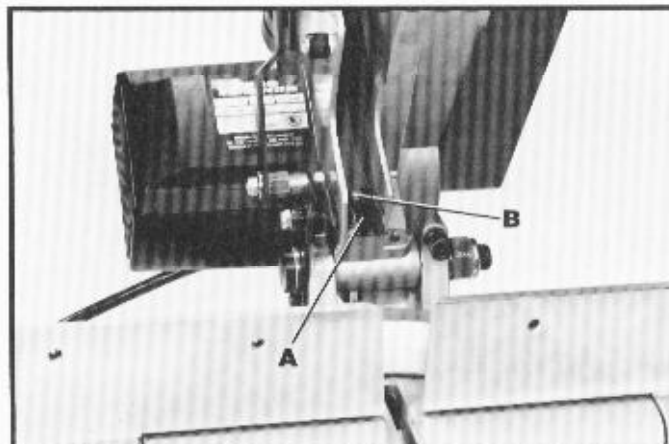

Fig. 61
If it ever becomes necessary to replace the dust deflector (A) Fig. 61, **DISCONNECT THE MACHINE FROM THE POWER SOURCE** and remove the saw blade from the machine. Remove screw (B), replace deflector (A) and saw blade.